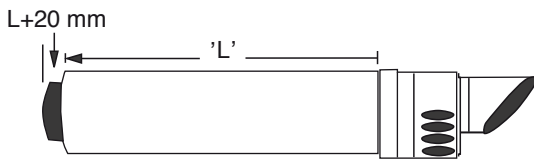

Figure 10.5
10.9 Measuring from the back of the terminal connection, mark distance 'L' onto the outer air duct. (Figure 10.5).
10.11 Measuring from the back of the terminal connection, mark distance 'L' + 20 mm (Figure 10.5) onto the inner flue duct and cut the duct to size, ensuring that the cut is square and free from burrs.